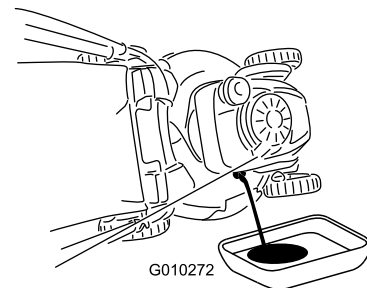

Figure 24
3. Remove the dipstick by rotating the cap counterclockwise and pulling it out (Figure 24).
4. Tip the machine onto its side (so that the air filter is up) to drain the used oil from the oil-fill tube (Figure 24).